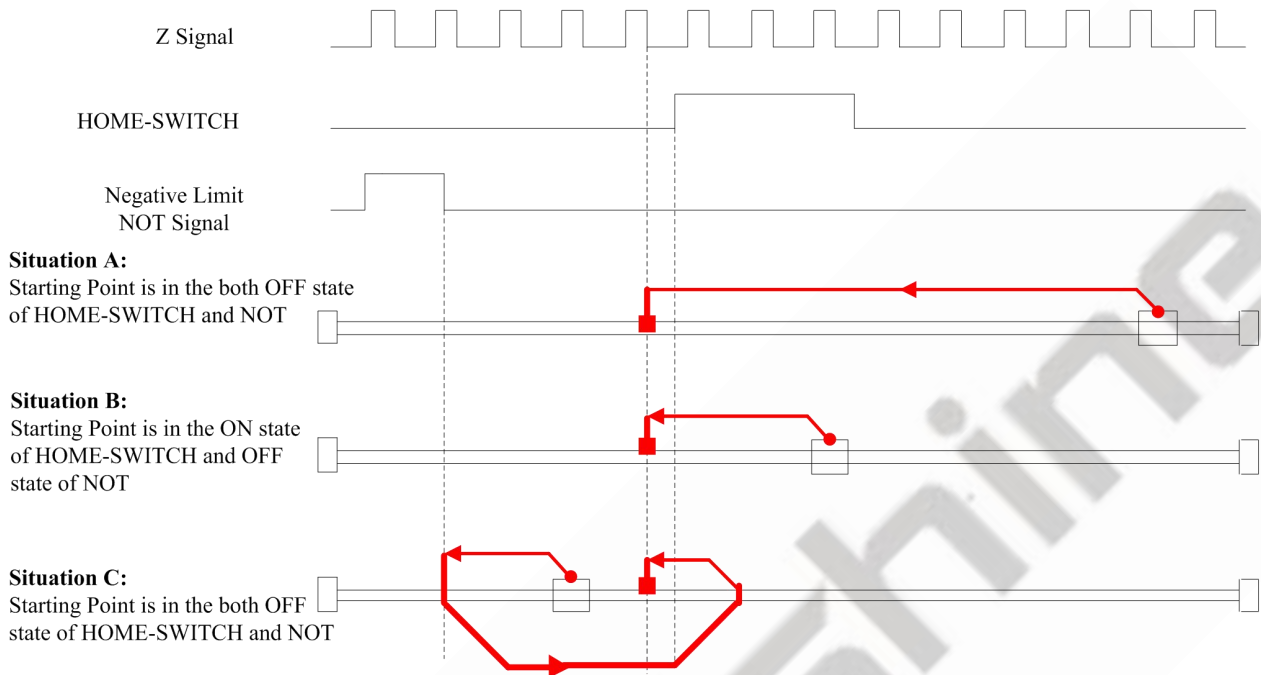

Figure 7-14 Method 14
- If the motor starting point is in the OFF state of HOME-SWITCH and Negative Limit, it will move toward negative direction at Low Homing Velocity (6099-02h), and the motion stops at the first effective Z signal during the OFF state of HOME-SWITCH, as shown in Situation A of Figure 7-14.
- If the motor starting point is in the OFF state of HOME-SWITCH and Negative Limit, it will move toward negative direction at Low Homing Velocity (6099-02h) until the Negative Limit goes ON to have a quick stop, then moves toward positive direction at Fast Homing Velocity and have a deceleration stop when HOME-SWITCH goes ON, then move toward negative direction at Low Homing Velocity, the motion stops at the first effective Z signal during the OFF state of HOME-SWITCH, as shown in Situation C of Figure 7-14.